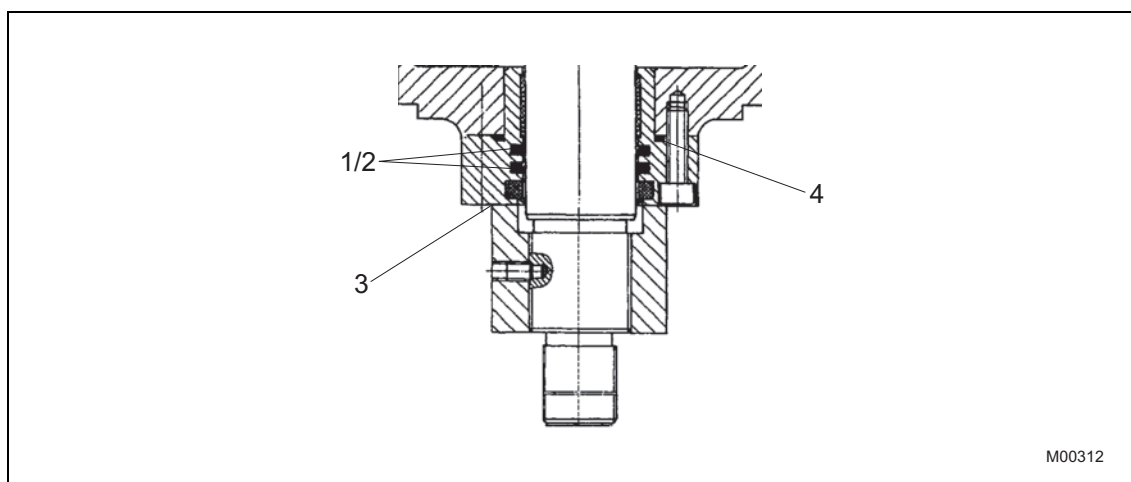

Fig. 13: Illustration of the thrust rod gaskets; item 4 not for RSDE10 / RSDE20
- Interpolate the replacement intervals for the thrust rod sealing ring (see Fig. 13/1), the associated O-ring (see Fig. 13/2), the scraper ring (see Fig. 13/3) and the (flange) O-ring (see Fig. 13/4).